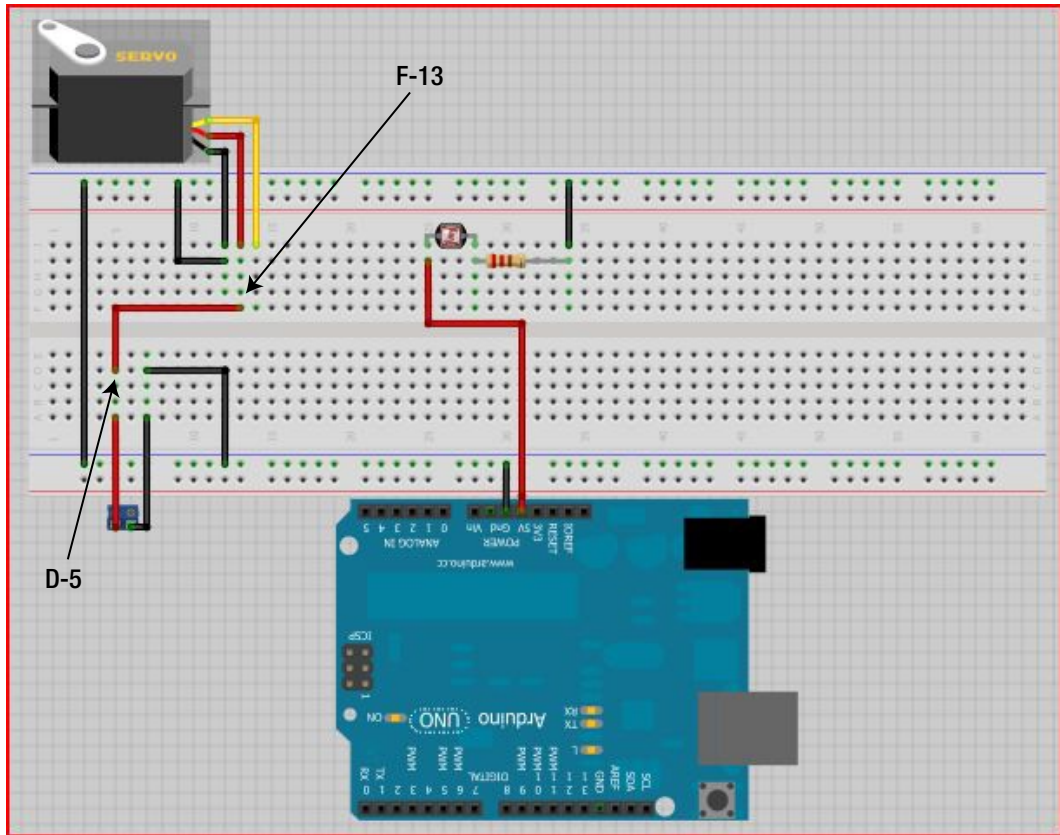

Figure 27-12. Attach the power side of the battery connector to the power of the servo
11. Next, run a jumper wire (we used red) from D-5 of the breadboard to F-13. Figure 27-12 illustrates this process.